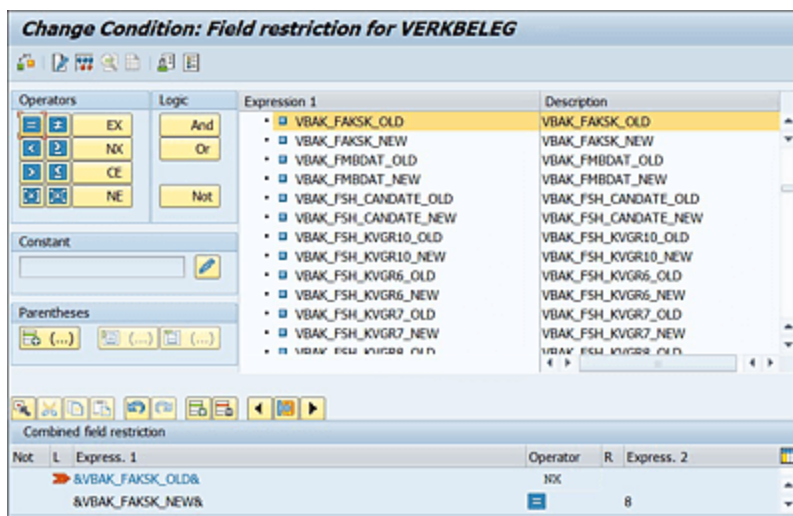

Figure 5.7 Maintaining Field Restrictions with the Condition Editor in Transaction SWEC
- If your condition involves a more complex expression, then use the **Condition Editor** button to navigate to the screen shown in Figure 5.7, and enter the condition as required. You can make use of a wide range of expression operators, such as **>**, **>=**, **<**, **<=**, **EX**, **NX**, **CE**, **NE**, and so on, along with logical operators, such as **And**, **Or**, and **Not**, to frame your condition. You can also use parentheses in your expression as appropriate and use multiple table fields together in a single expression.